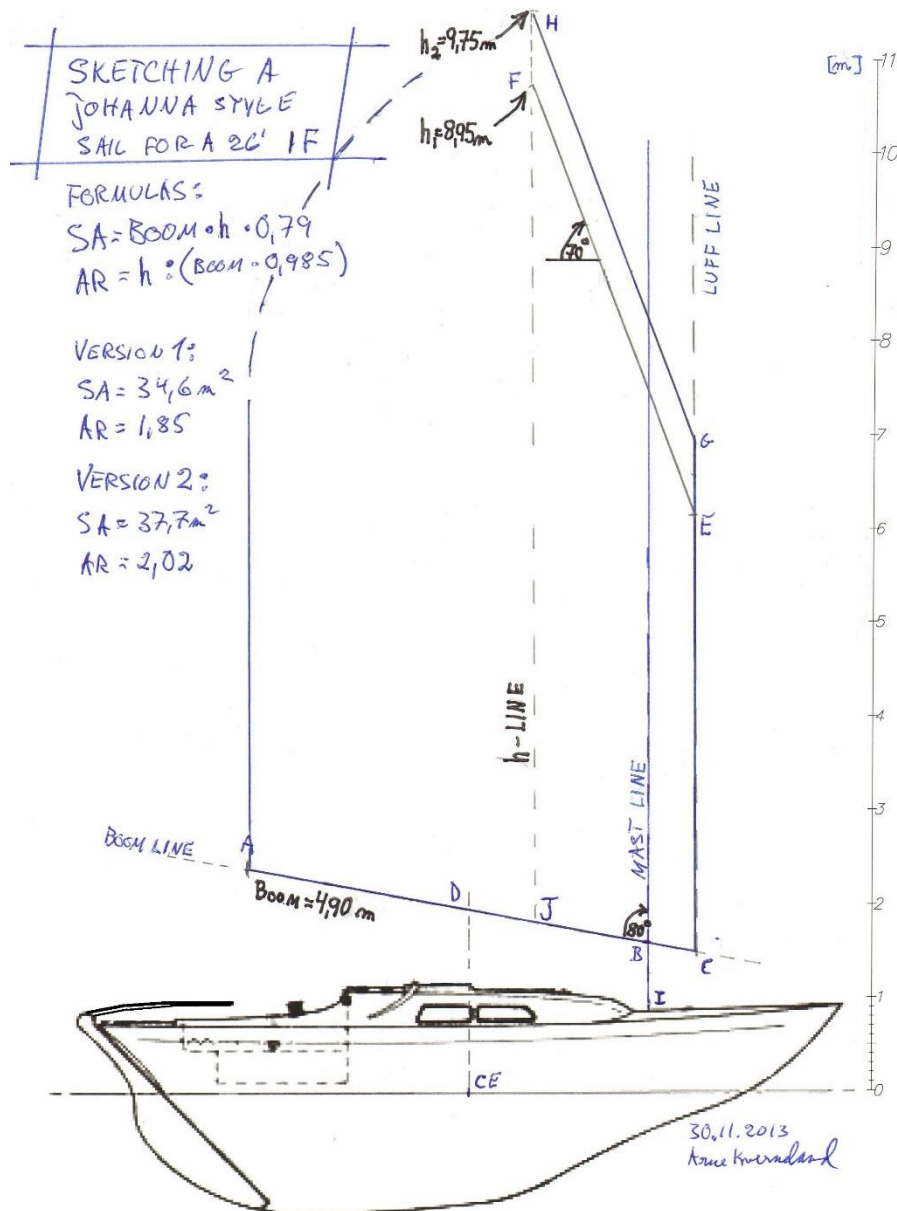

Fig 3.1, a sloop rig for a 26' Marieholm IF, two versions
Fig 3.1 shows a typical sketch, with two versions of a sloop sail in one diagram. With this in hand I'll lead you through the easy procedure of drawing it and using it for finding the CE, SA and AR.
4. Decide where the horizontal position of the CE of the sail should sit, relative to the CLR. This is often easier said than done. Here I have started with the CE of the Bermuda rig (BR), and then selected a point about 4-6% of the WL further aft. Then draw a short vertical line through CE, to cross the boom line at D.
5. **The CE in a Johanna style sail:** Now here is a convenient trick: Experience has shown that the CE of these sails ends almost exactly over the centre of the boom. This lets us now draw the boom. To find a suitable boom, all we have to do is to draw half of it aft of and half of it forward of D. In addition, the boom has to pass the mast so that it is has around 10% of its length forward of the mast. The resulting 4.90m boom is between A and C in Fig 3.1. Later, when on the boat you will be free to position the sail with the balance varying between 5 and 15% (.. 10% *balance* means here that 10% of the chord of the sail is forward of the mast...)